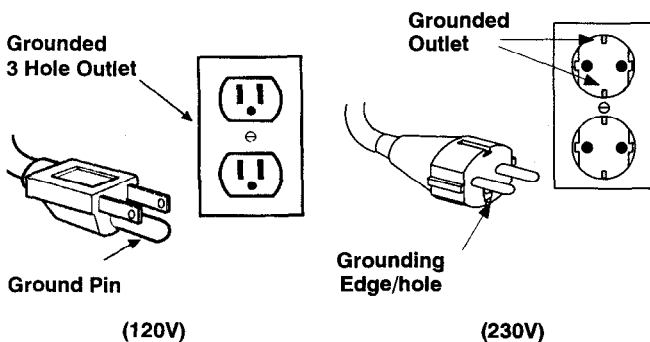

FIG. 24
- With the charger DC outlet connector disconnected from batteries, plug charger power supply cord into a grounded wall outlet (Figure 24).